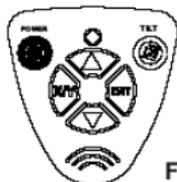
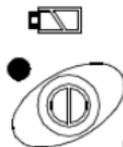

Fig.4
Fig.5
1. The first press of the POWER button on the remote control (fig.4) will make the instrument enter sleep mode. The power indicator lamp on the panel is lit (fig.5), the laser beam goes out, and the instrument head stops rotation.